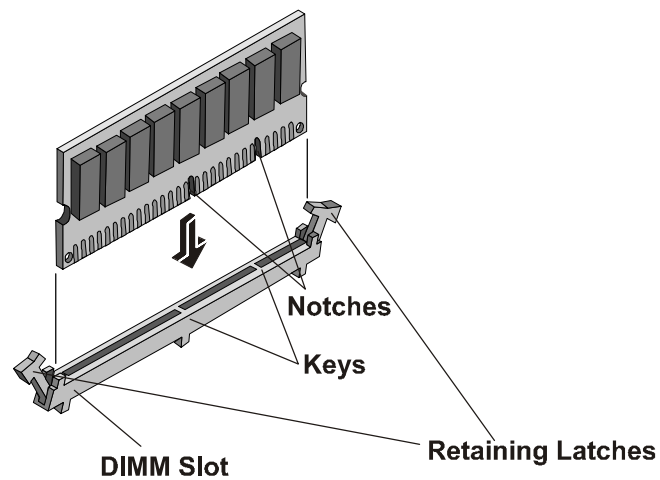

Figure 3-14. DIMM to Slot Alignment
7. Align the notches on the new DIMM with the keys on the DIMM slot. See Figure 3-14.